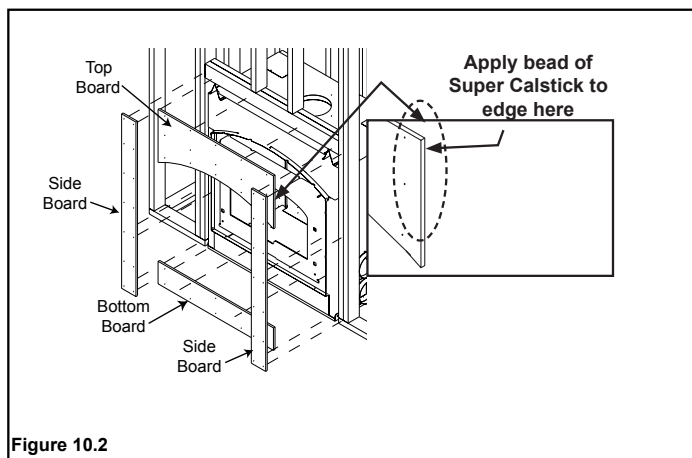

Figure 10.2
- Using the Super Calstick, run a light bead (1/8 in. minimum) on the butt edges of the top board. See Figure 10.2